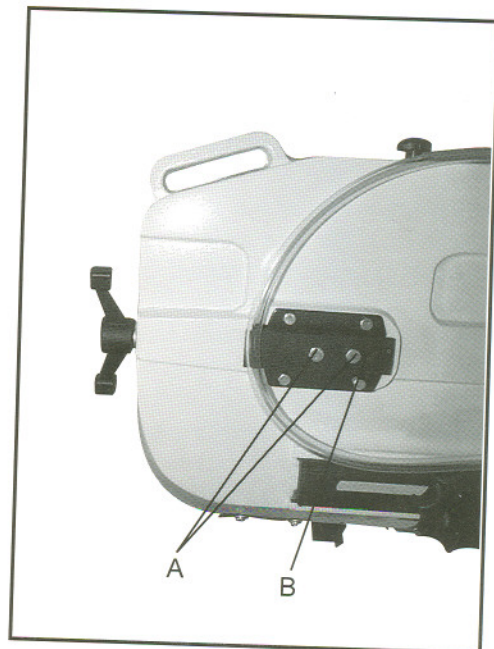

Fig. 15
5. Loosen bolts (A, Fig. 15).
6. Turn set screw (B, Fig. 15) while observing the blade tracking on the wheel. Turn the set screw clockwise to track the blade closer to the wheel flange. Turn the set screw counter-clockwise to track blade away from the wheel flange.
7. Once tracking is set, tighten bolts (A, Fig. 15).